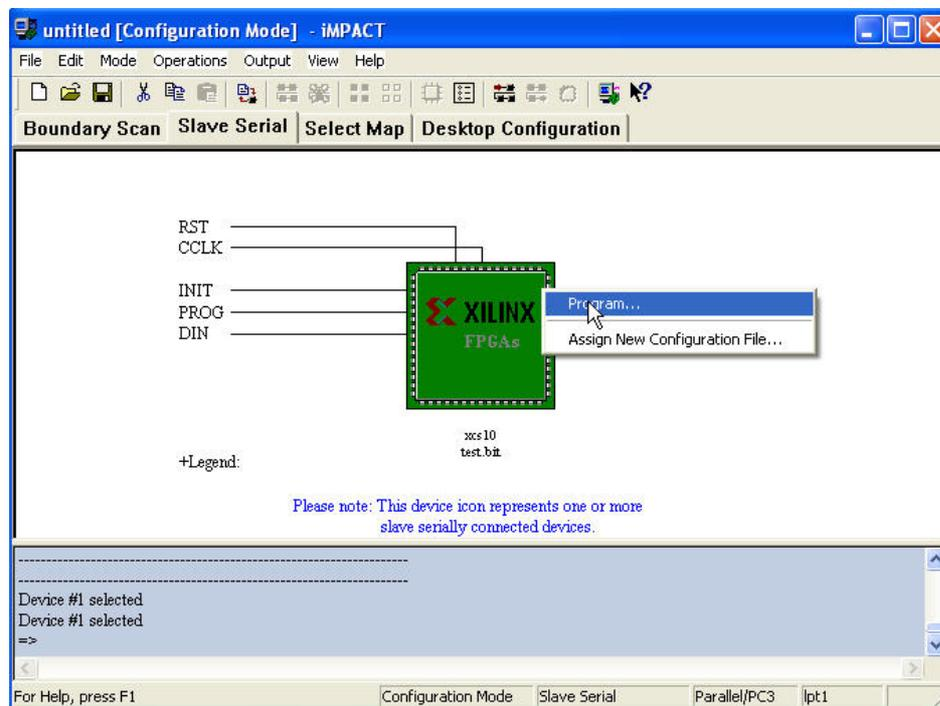
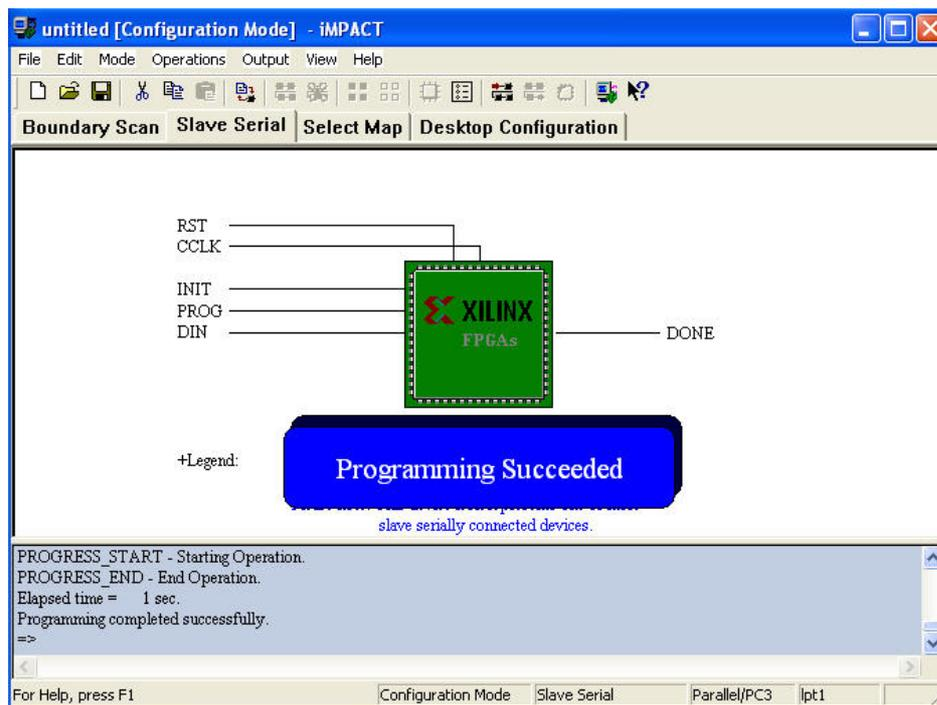

Figure 30: Downloading Design.
Figure 31: Successful Download.
5. Design Impact is ready for design downloading. The ready setup is shown in Figure 30. Right click on the device and click on download to download the design. Then, Design download success is displayed as shown in Figure 31.